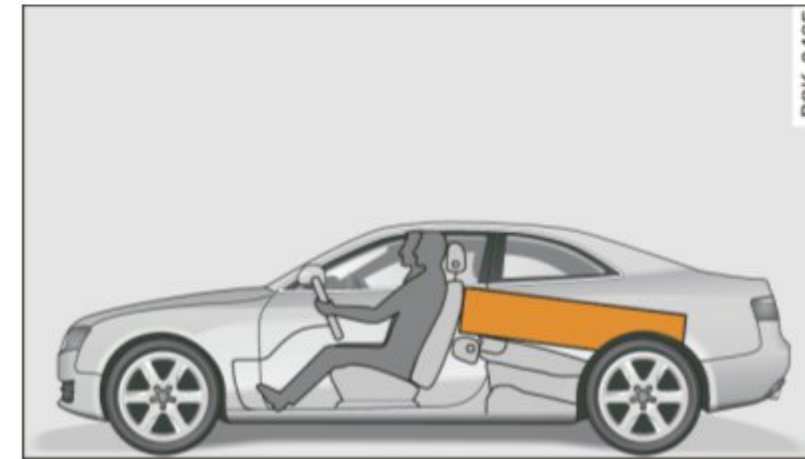

Fig. 166 Safe load positioning: place heavy objects as low and as far forward as possible.
- Always place and properly secure heavy items in the luggage compartment as low and as far forward as possible ⇒ fig. 166.